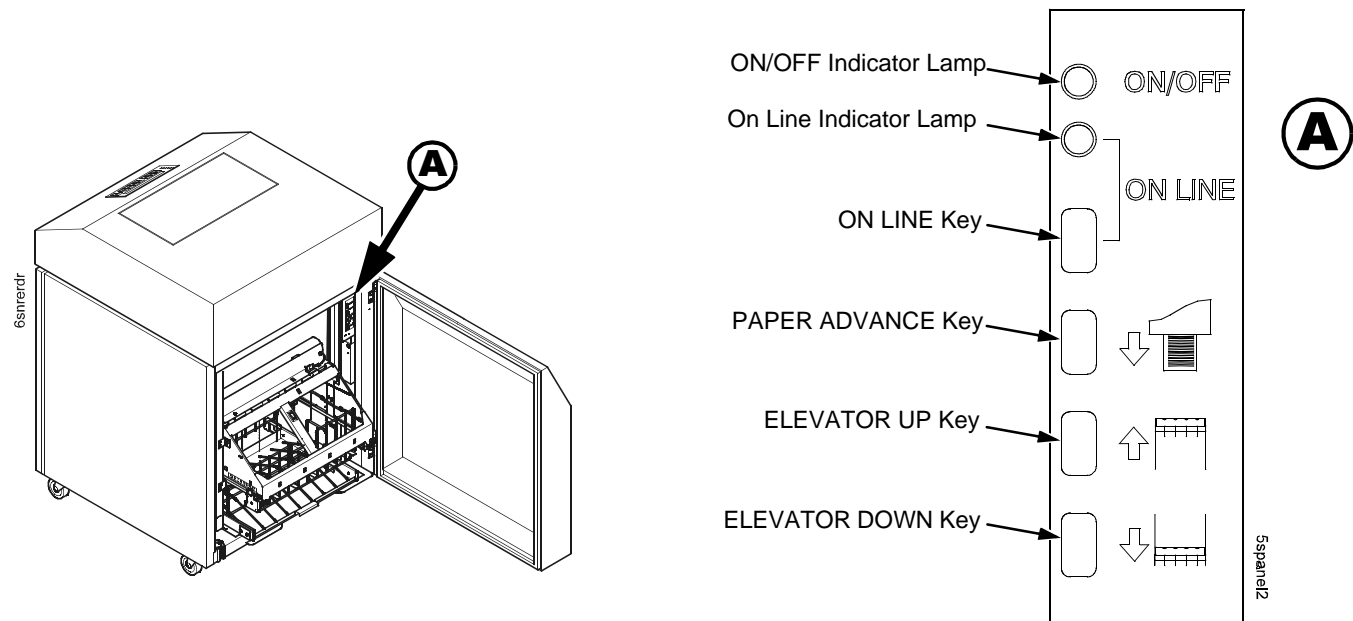

Figure 71. This figure shows the location of the power stacker operator panel and the keys on the operator panel.
The stacker operator panel is behind the rear door of the cabinet. (Figure 71.)
3. On the stacker operator panel, press **ON LINE** to take the printer offline. (Figure 71.)
4. Press the **ELEVATOR UP** key and wait for the stacker to reach the top of its travel. (Figure 71.)